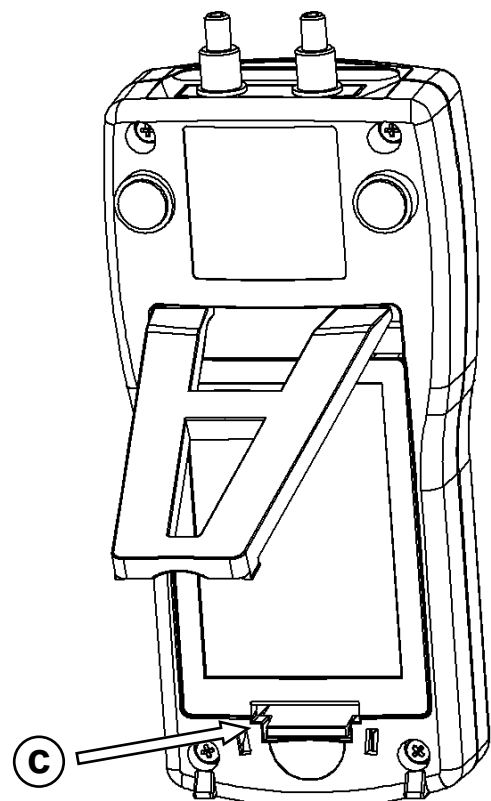

Fig. 2: Battery compartment location.
- Insert batteries (included) in the battery housing unit ensuring correct polarity. To remove battery housing protection panel press gently downwards on the plastic lever (c in fig. 2).